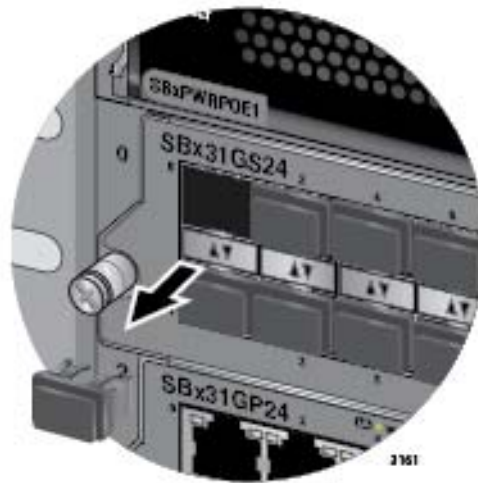

Figure 82. Removing the Dust Cover from an SFP Slot in the AT-SBx31GS24 Line Card
2. Remove the dust cover from the SFP slot chosen for the transceiver. Figure 82 shows the removal of the dust cover from transceiver slot 0 on the line card in chassis slot 0.